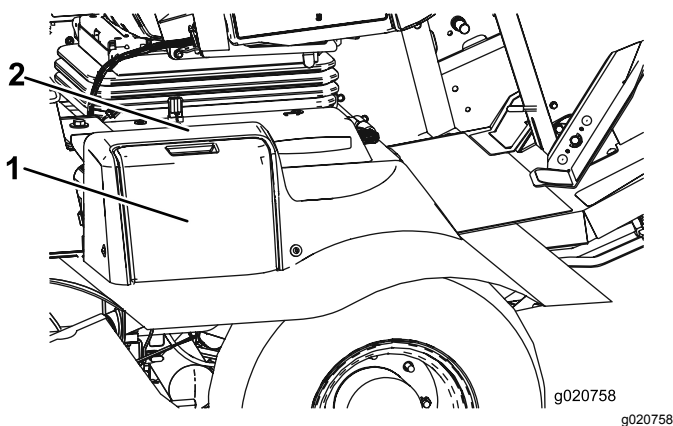

Figure 80
1. Open the battery cover (Figure 80). on the side of the shroud.
Note: Press down on the flat surface above the battery cover to ease cover removal (Figure 80).